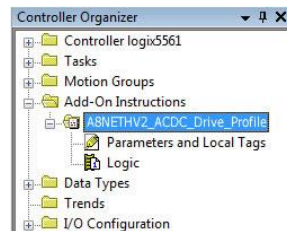

Figure 36: AC/DC Drive Profile Add-On Instruction
- 2) Right click on "Add-On Instructions" in the controller organizer view and select "Import Add-On Instruction". Browse and import the AC/DC drive profile add-on instruction. Refer to Figure 36.